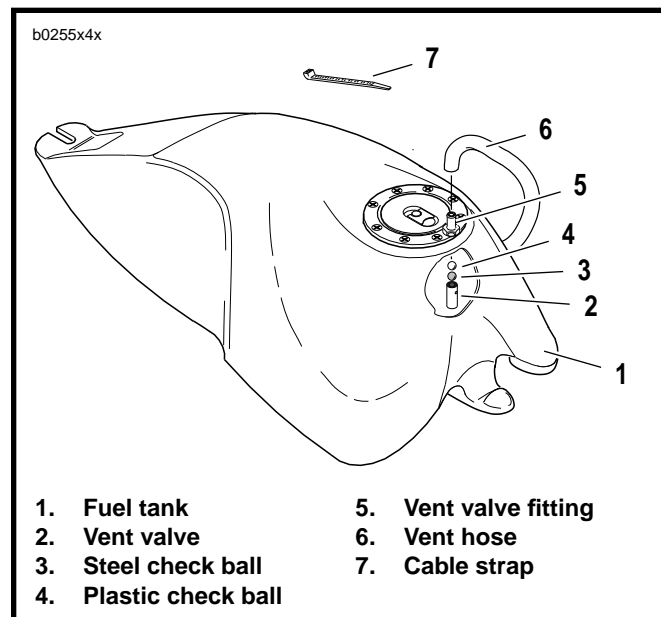

Figure 4-26. Vapor Vent Valve
1. See Figure 4-26. The vent valve fitting (5) is screwed into the top of the fuel tank.
2. Remove vent hose cable strap. Disconnect hose (6) from fitting. Remove fitting.
1. See Figure 4-26. Screw vent valve (2) into fuel tank.
3. Attach vent valve fitting (5).